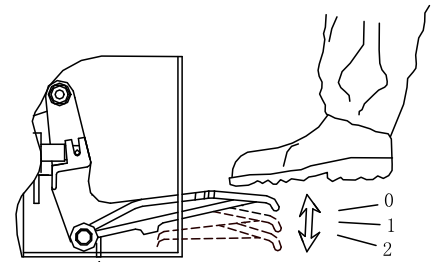

Fig24
a. Thread the rapid tyre inflation pedal to middle position (Fig 24, position 1), the inflating head should give air.
b. Thread Rapid Tyre Inflation Pedal all the way down (Fig 24, position 2), a strong air blast should come from the holes in the four jaw s' locking sliders. **(Fig 24)**